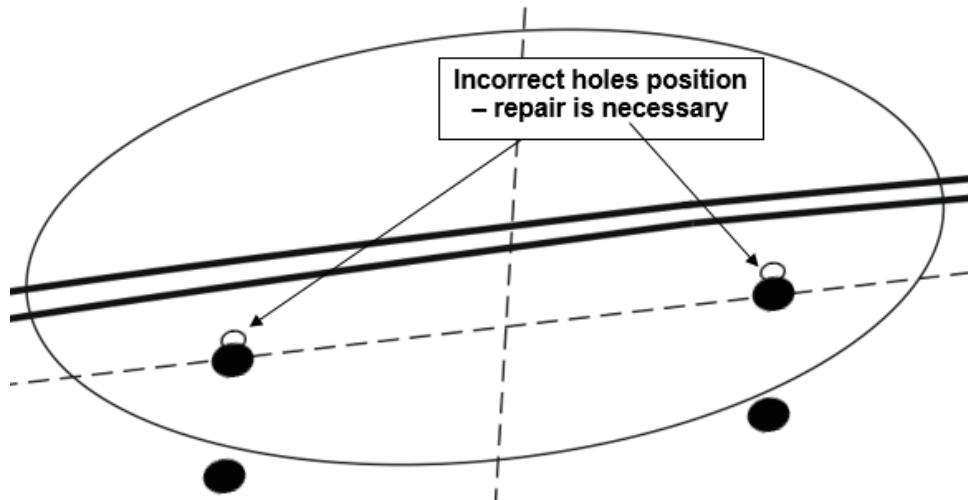
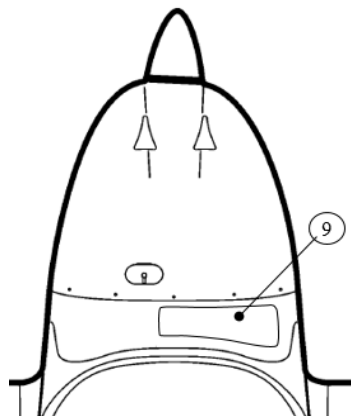

Figure 3 - Detail A
Figure 4 - Cover of the rescue parachute box
As some cases of incorrect distribution of rivet holes on the firewall were discovered, it is necessary to inspect that the assembly of the stiffeners P/N SF0157L/P and the firewall P/N SF0101N is riveted correctly. The inspection consists of the check of the uppermost rivet row - see the illustrative figures below (Figure 1, Figure 2, Figure 3). The inspection has to be performed from both sides of the firewall. To get access from the cockpit area, the cover (9) of the rescue parachute box must be removed - see Figure 4 below.
3. Remove the cover (9) of the rescue parachute box, see Figure 4 .
4. On the firewall, check thoroughly the uppermost row rivets fastening the stiffeners SF0157L/P to the firewall, see the illustrative figures above (Figure 1, Figure 2, Figure 3). The inspection has to be performed from both sides of the firewall.
12. Bore the incorrect rivet holes with drill bit of dia.5 mm, cracks with drill bit of dia.3,2 mm (1/8 in) - see step no. 6 and Figure 3.